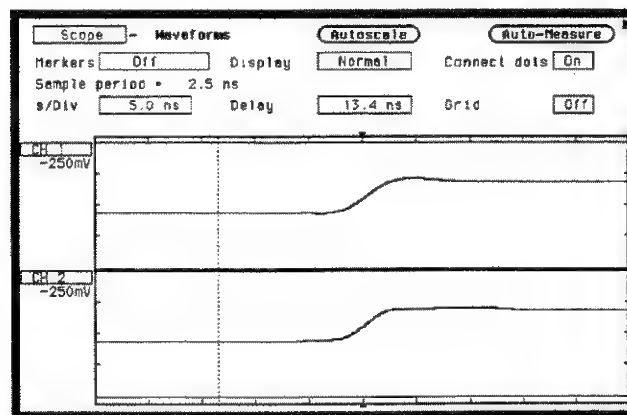

Figure 25-8. Rising Edge on Waveform
1. Select **s/Div** and change s/Div field to 5 ns to display a rising edge on the waveform. See figure 25-8.